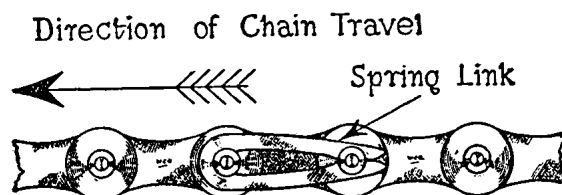

FIG. 79. BE CAREFUL TO REPLACE A CHAIN SPRING-LINK CORRECTLY
Replace the primary chain on the two sprockets, being careful that the spring link is correctly fitted (see Fig. 79). Now tighten very firmly the nut (V) which retains the clutch centre (E) to the mainshaft splined-sleeve. When tightening this nut, engage fourth gear and apply the rear brake to prevent the mainshaft turning. Turn up the edge of the locking plate (W) against a flat on the nut (V) retaining the clutch centre (E).
Replace the primary chain, being careful to see that its spring link is correctly fitted (see Fig. 79). Engage fourth gear, apply the rear brake, and then tighten firmly the nut (13) securing the clutch centre (14), to the mainshaft. Position the spring pressure-plate (15) and fit in this order: the clutch-spring cups (5), the three clutch springs (6), and the spring adjustment-nuts (4). With the end of the appropriate spanner (Part No. 017254), screw home the adjustment-nuts until they are just flush with the spring cups.